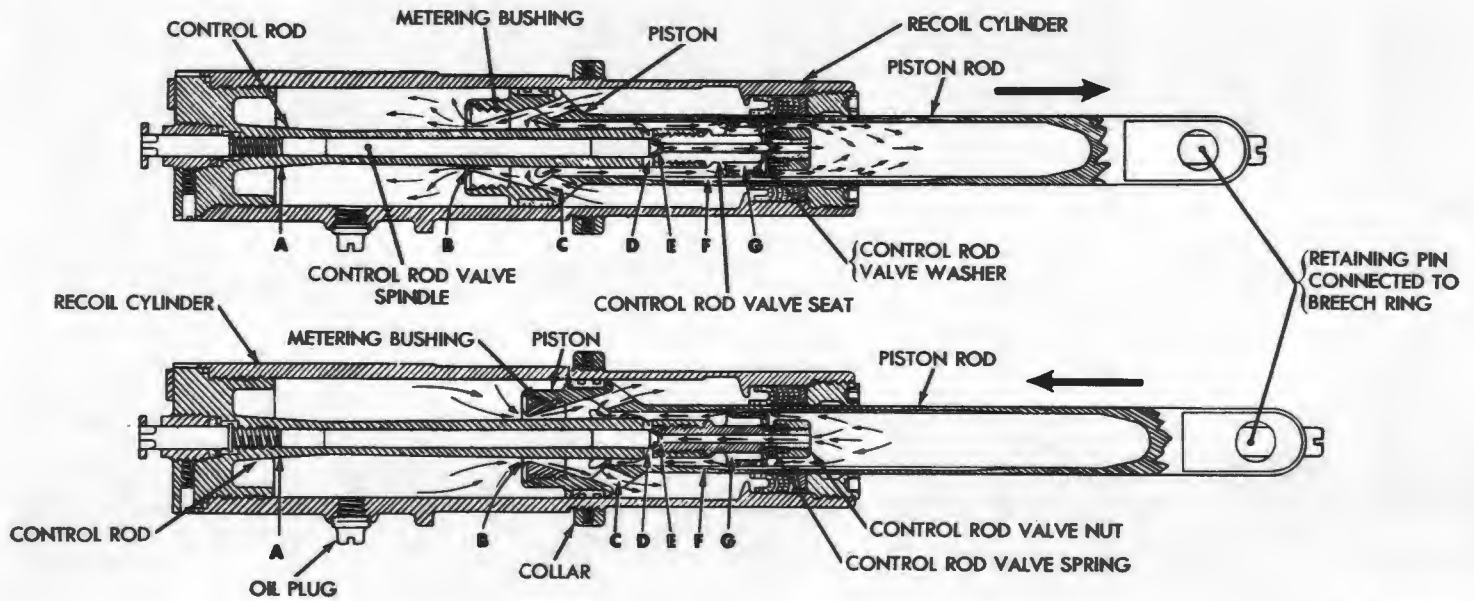

Figure 288. Recoil cylinder—action in recoil and counterrecoil.
Notes. The recuperator spring is a component of the barrel assembly. The piston rod (fig. 288) of the recoil cylinder is connected to the breech ring. When the gun is fired, the tube, piston rod, breech ring, and loader tray move to the rear in recoil.
Note. The key letters noted in parentheses are in figure 288.
- (1) When a round is fired, pressure of the propellant gases in the tubes forces the recoiling parts of gun to the rear for a distance of 7.4 to 8.3 inches. As the gun recoils, the piston rod (fig. 288) is drawn to the rear by recoiling parts of the gun. Oil in the rear of the cylinder is forced through eight inclined openings (C) in the piston, through the metering bushings and into the space in front of the metering bushing.
- (2) The control rod, over which the metering bushing travels, is tapered with a larger diameter at front and rear. The effective flow space (B) between the control rod and the metering bushing gradually diminishes because of the increasing diameter of the control rod. This offers a greater resistance to the oil as it moves from the rear to the front of the piston.
- (3) During recoil, a quantity of oil flows to the rear between the control rod and the piston rod into the rear end of the hollow piston rod. This oil is used to control counter-recoil. Part of this oil flows through four holes (G) in the control rod valve seat, forces the control rod valve